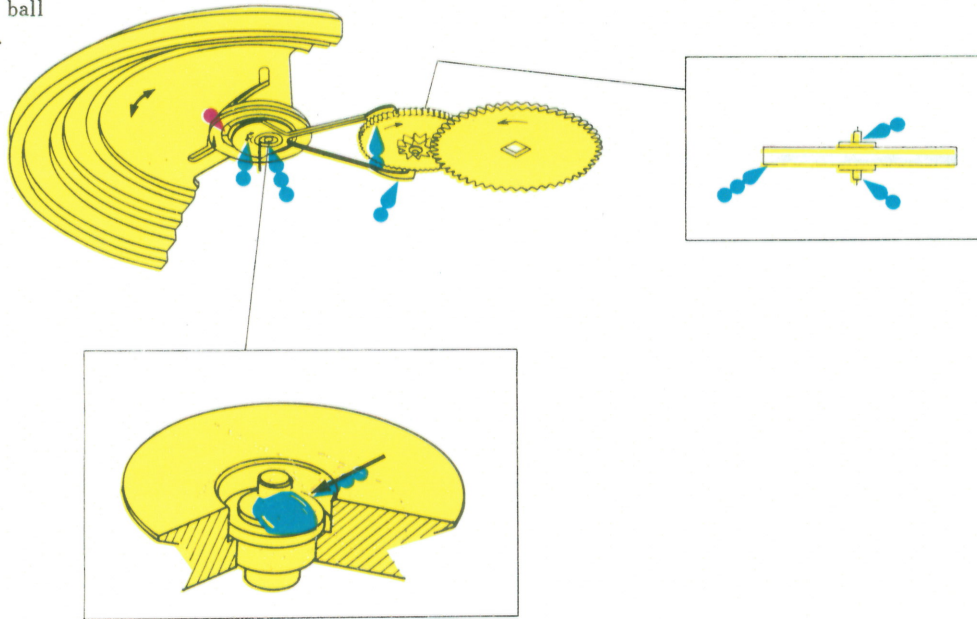

Fig. 3 Automatic Winding Mechanism
- Automatic winding mechanism .....Fig. 3